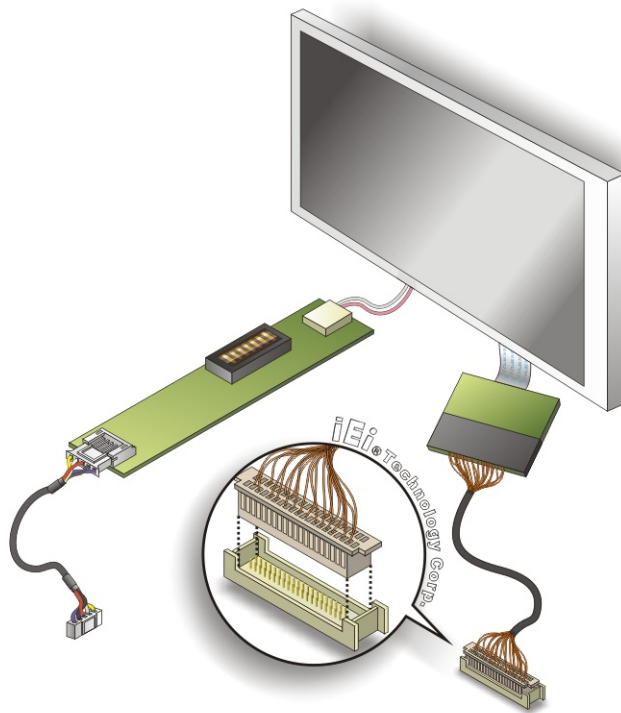

Figure 4-8: LVDS Connector
Step 2: Insert the cable connector. Insert the connector from the LVDS PCB driving board to the LVDS connector as shown in **Figure 4-8**. When connecting the connectors, make sure the pins are properly aligned.